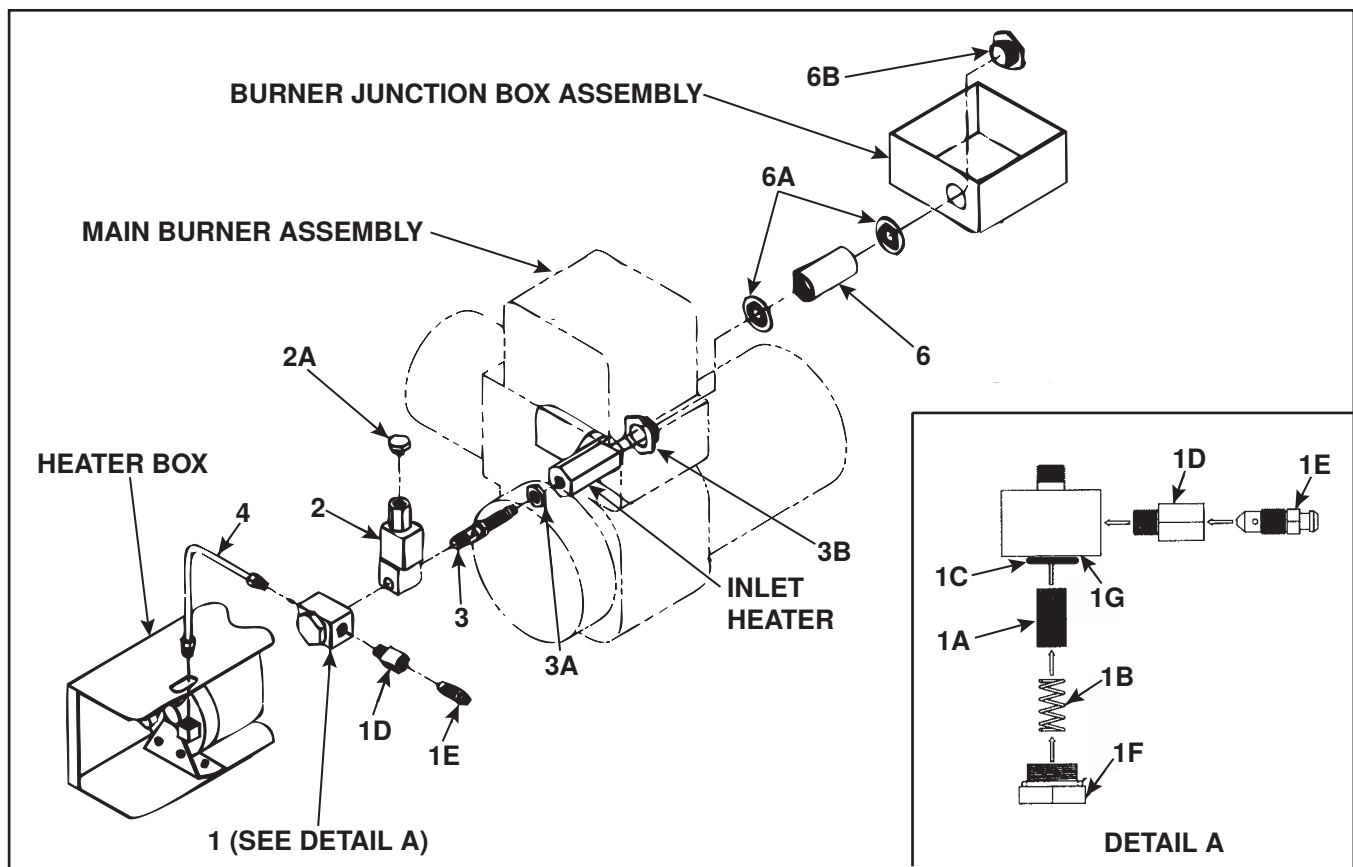

Figure 4. Burner Fuel Line Assembly (Refer to Table 5)
- Burner fuel line components are shown in Figure 4 and listed in Table 5.
- The oil solenoid valve (item 2) is to be piped as follows: port 1 to the secondary strainer assembly (item 1), port 2 to the fuel connection assembly (item 3), and port 3 to the hex head plug (item 2A). Install sleeving (item 2B) around the solenoid valve wires.
- Wrap insulation (item 4A) around the copper tubing assembly (item 4).
- The inlet heater (see Figure 4), fuel connection nut (item 3A), and chase nipple (item 3B) are located inside the burner housing assembly.